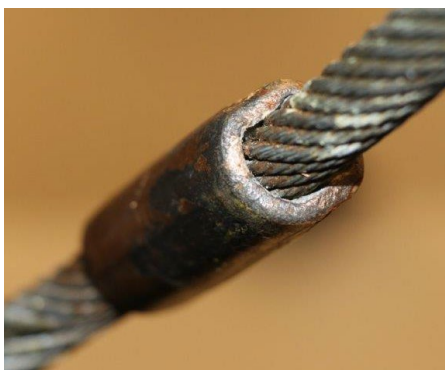
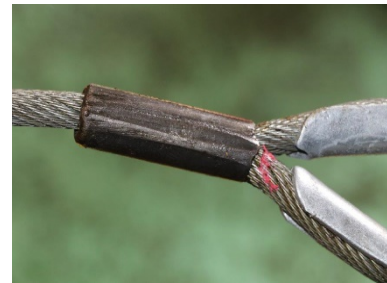

Figure 2: Completed fitting is not "round" nor within manufacturer specifications
Figure 3: Fitting is deformed with "ridges" of extra material present from over-crimping.
- Visually examine wire rope terminations for abnormalities that may indicate improper installation (Figure 1 shows a crimp with a uniform appearance, while Figure 2 shows out-of-roundness and Figure 3 shows ridges created by over-crimping). These ridges or abnormalities **COULD** be indicative of over-crimping, but any abnormalities need to be verified based on the type of crimp